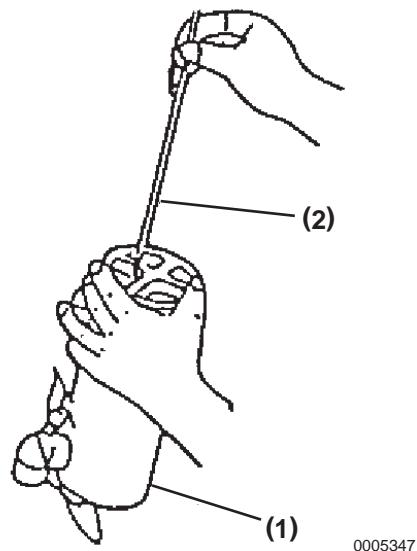

Figure 7-19
3. Remove the side cover from the freshwater cooler. Check the core for contamination by dust and foreign matter. If needed clean the core (**Figure 7-19, (1)**) using a soft brush (**Figure 7-19, (2)**) available locally.